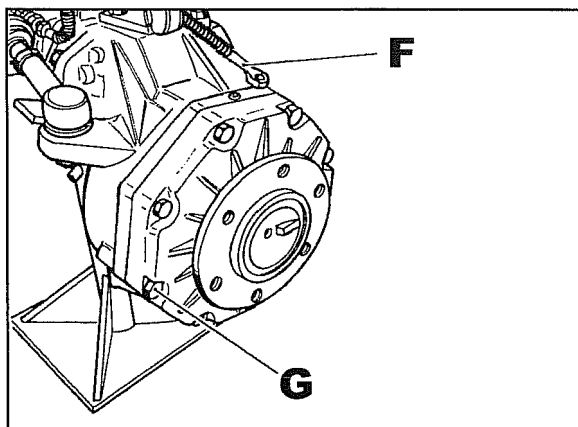

Fig. 22
- 31 Disconnect hose **F** fig. 22 oil delivery to the brake.
- 32 Place a container underneath to catch the brake fluid, remove the brake ass'y by removing screws **G** fig. 22.